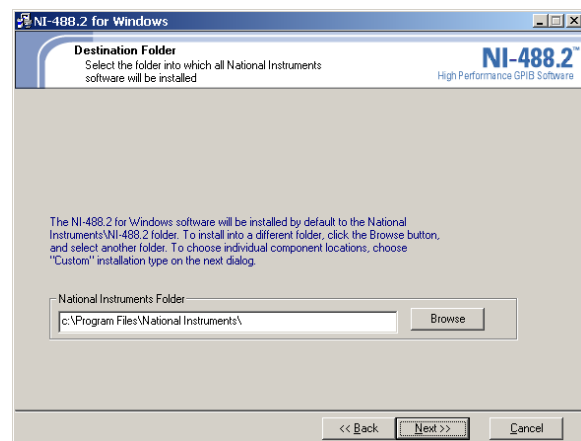

Figure 4D. Destination directory—installation page 3
5. The **Destination Folder** page will open (Figure 4D), which you can use to designate the location of the software. When you are finished, click on the **Next >>** button.